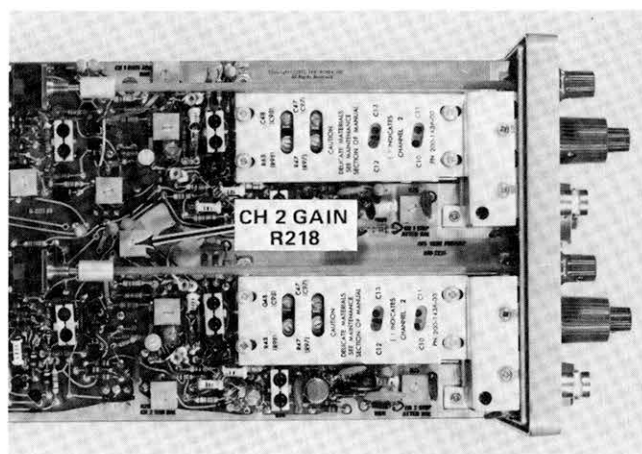

Fig. 5-16. Location of CH 2 Gain adjustment.
e. ADJUST—CH 2 Gain adjustment R218 (see Fig. 5-16) for 4 divisions of deflection.